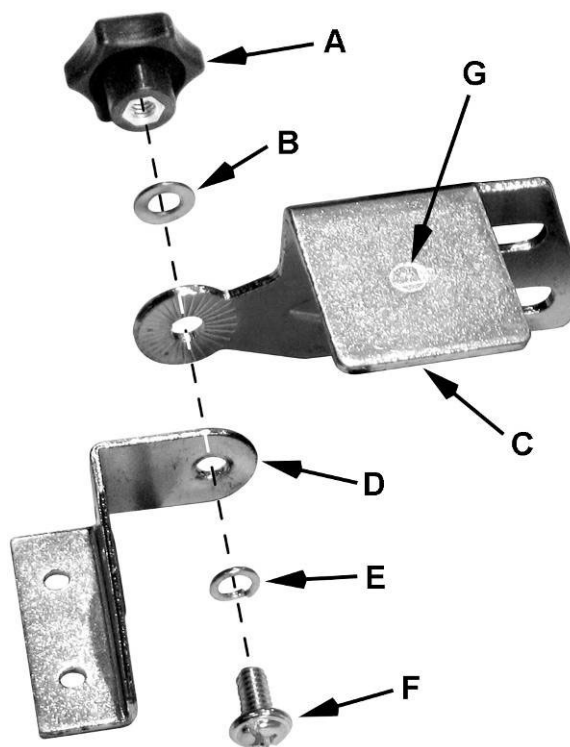

Figure 1
- 2 Brackets (D) (see Note)
- 2 Lock Knobs (A)
- 2 Spark Guards (C) (see Note)
- 2 1/4" x 1/2" Screws (F)
- 2 1/4" Flat Washers (B)
- 2 1/4" Lock Washers (E)
Note: Brackets (D) and spark guards (C) are marked **L** (G, Fig. 1) for left side assembly and **R** for right side assembly.
1. Assemble the left spark guard and eye shield mounting bracket using Figure 1 as a guide. Make sure the spark guard and bracket is marked **L**.
Note: There is a *left* and a *right* tool rest. Refer to Figure 1 to ensure that you install them correctly.